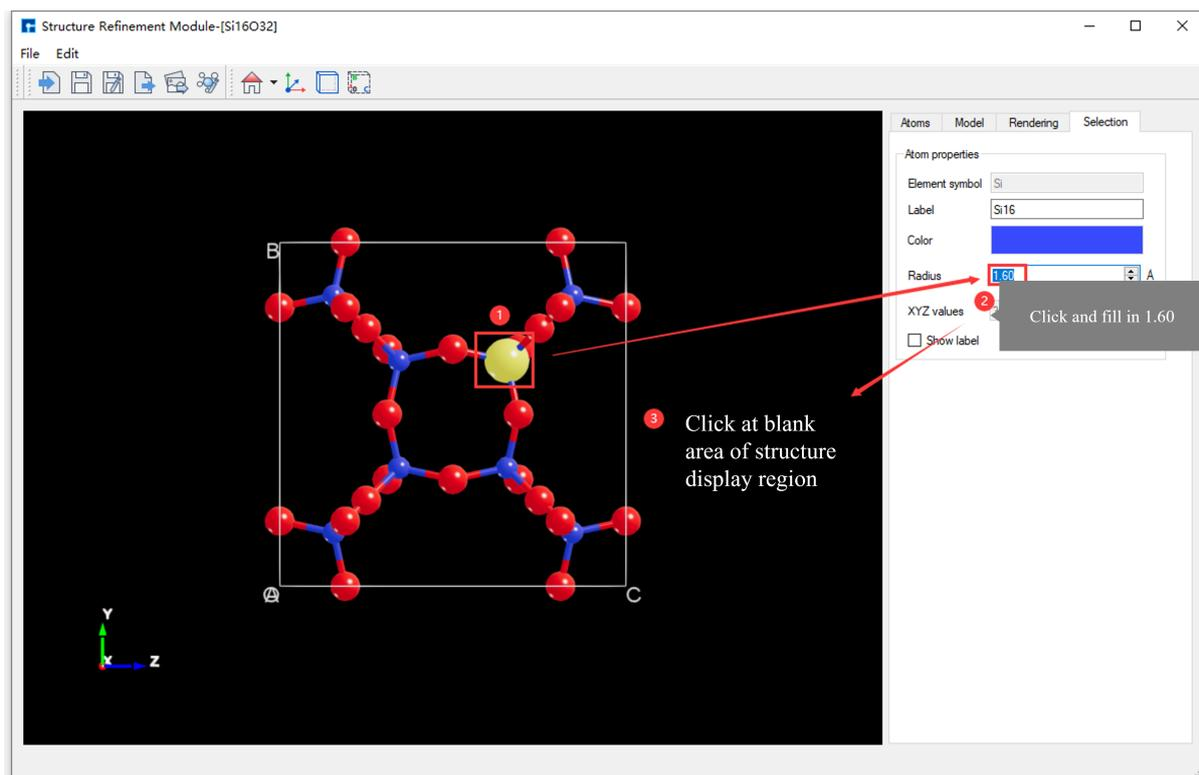
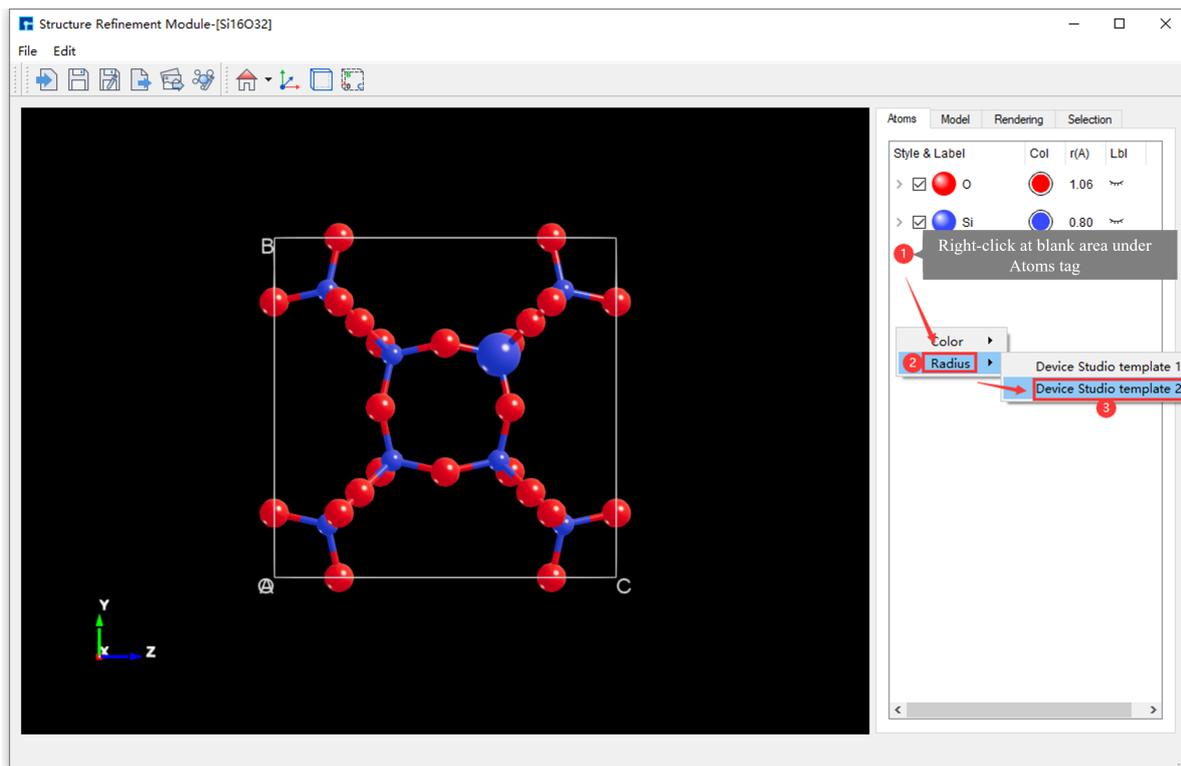
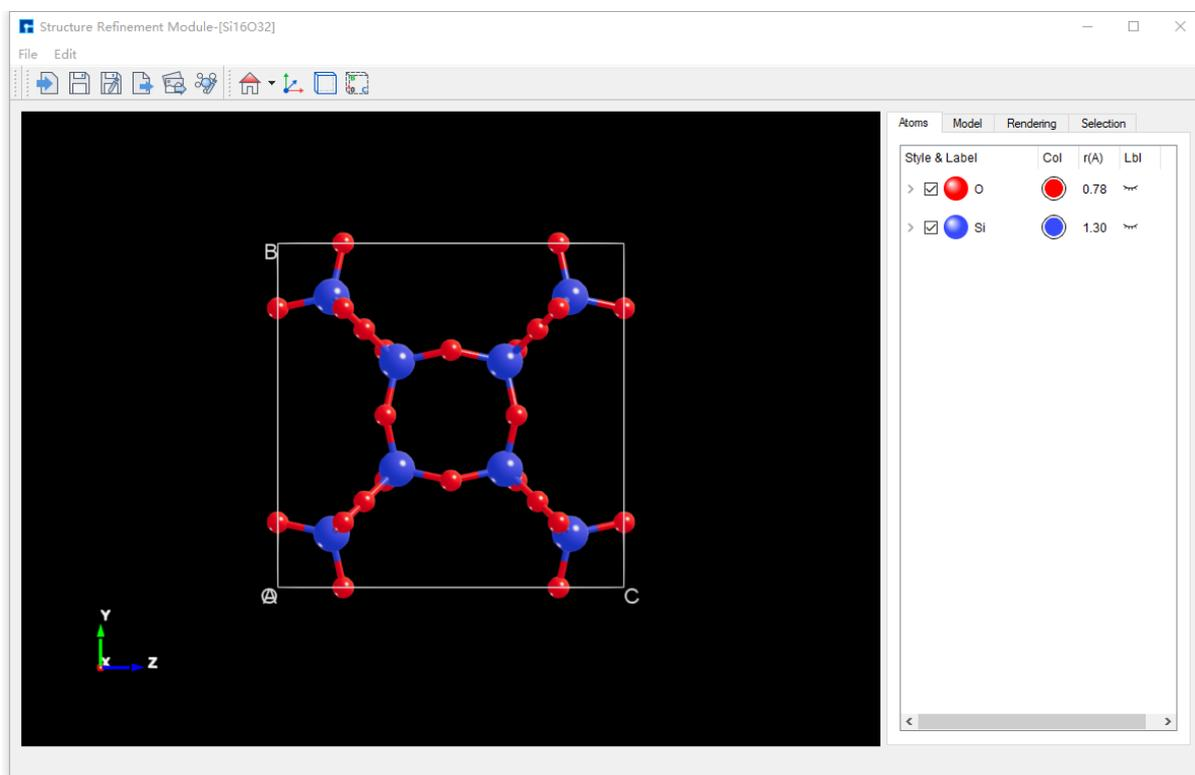

fig. 6.37: Select Atoms: Interface for modifying the radius of the Si16 atom in the Si16O32 crystal structure from 0.80 to 1.60.
fig. 6.38: User interface for modifying the radii of all elements in the Si16O32 crystal structure.
fig. 6.39: Interface after modifying the atomic radii of all elements in the Si16O32 crystal structure
- Method 2: Click on the Si16 atom with the mouse, as shown in fig. 6.37, to modify the radius of the Si16 atom in the Si16O32 crystal structure from 0.80 to 1.60.
The Si16O32 crystal structure contains two elements, Si and O. The interface for modifying the radii of all elements in the Si16O32 crystal structure based on fig. 6.37 (effectively switching to the radii of Device Studio template 2) is shown in fig. 6.38. The interface after modification is shown in fig. 6.39.